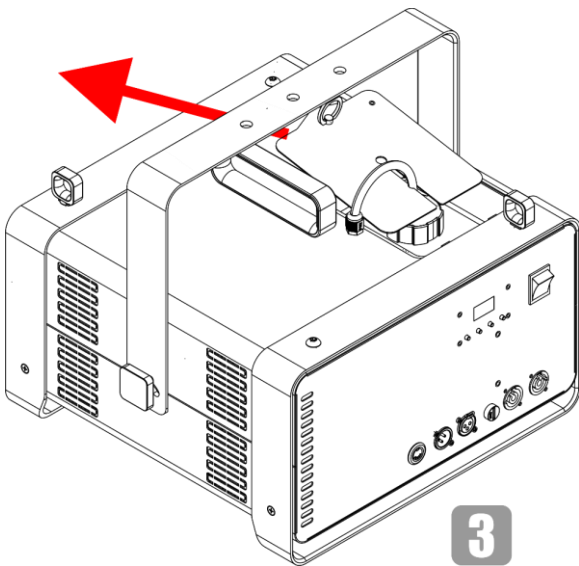

Fig. 23
- 03) Remove the service lid, as shown in Fig. 23.